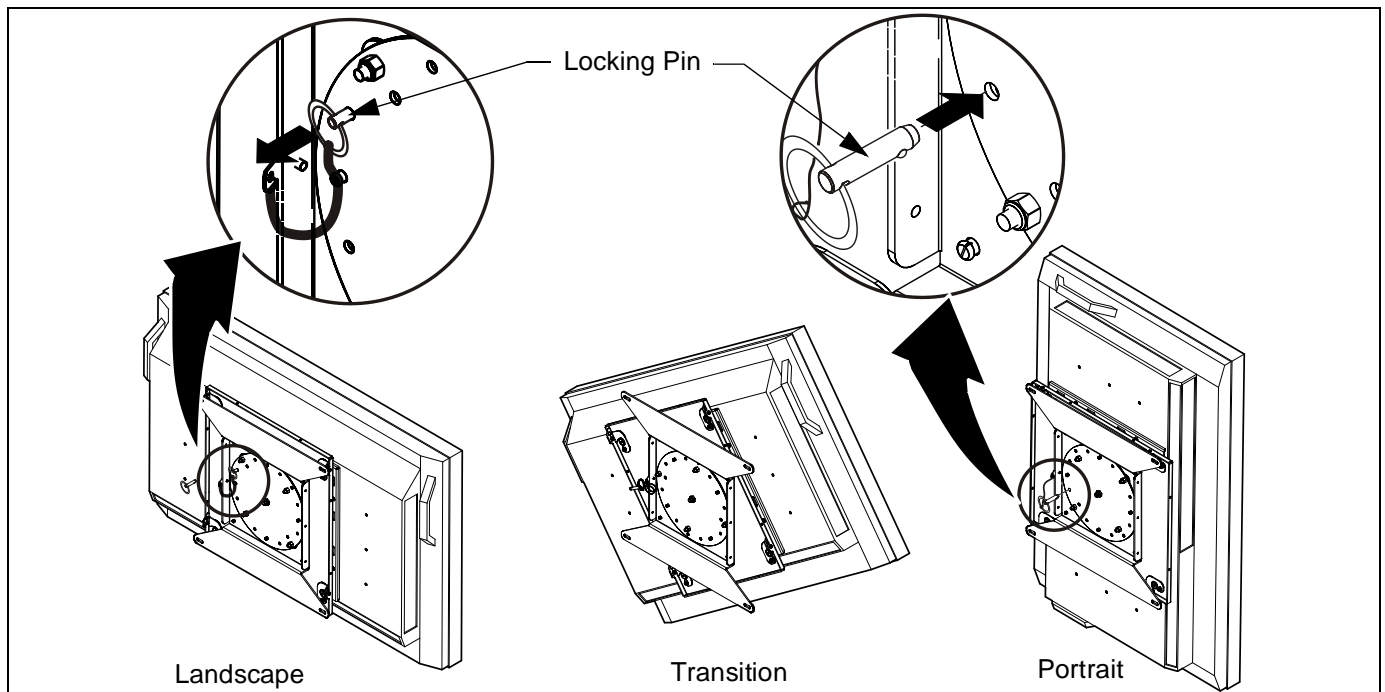

Figure 8: Rotate Display
- Remove locking pin from mount. (see Figure 8)
- Rotate mount to desired position. (see Figure 8)
- Insert locking pin into mount. (see Figure 8)